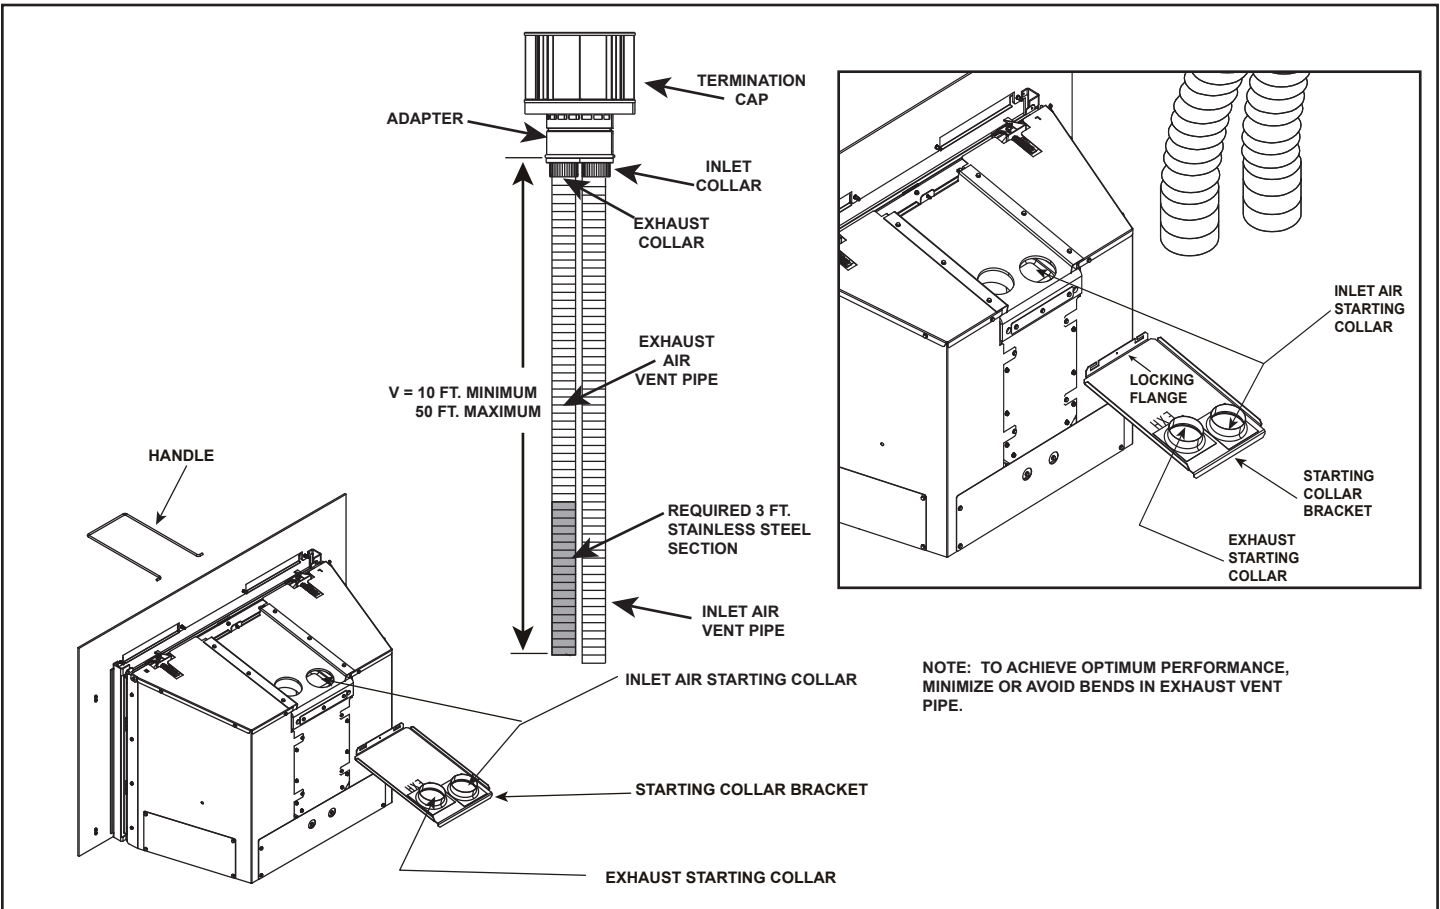

Figure 7.1
- Secure the exhaust flexible vent pipe to the 3 ft. section stainless steel flexible vent pipe using the factory-installed 3 in. collar in the stainless steel section of pipe (see Figure 7.1).
- Use 3 screws to attach the section of inlet air vent to the inlet collar on the collar slide plate. See Figure 7.1.
- Secure collar slide plate to appliance by placing locking handle into position with locking tabs (see Figure 7.1) and secure with #8 screw.